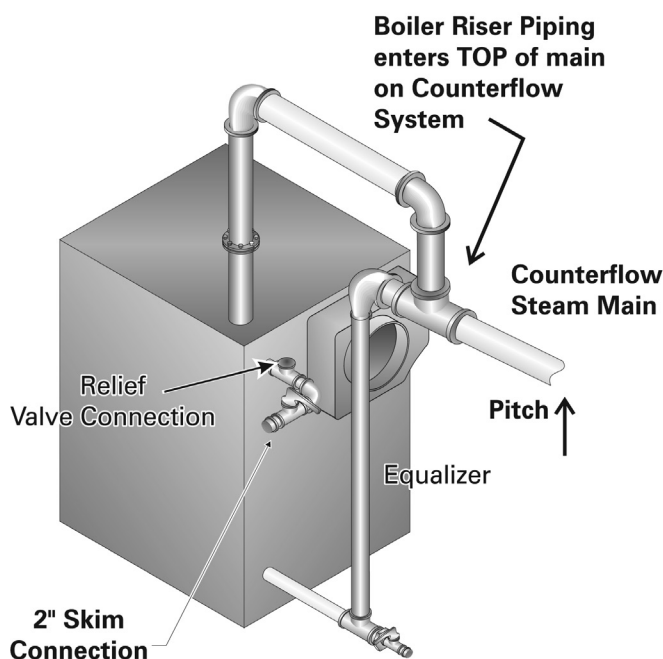

Figure 3.2: Supply and Return Piping – Counterflow Gravity Systems
5. Counterflow Gravity systems require the boiler steam line to **enter the top of the steam main**. See Figure 3.2 for this special case.